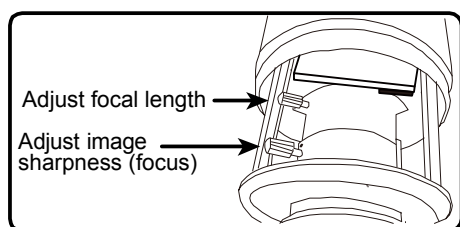

Figure 1
Step2: Locate where you want to install this camera, and fasten the camera to the ceiling or wall (*Figure 1*).
Step2: Find two handles on the camera as shown in **Figure 1**. Move the handle near to the main board first to find the best surveillance area, and move the hand near to the lens to adjust the sharpness of the image.